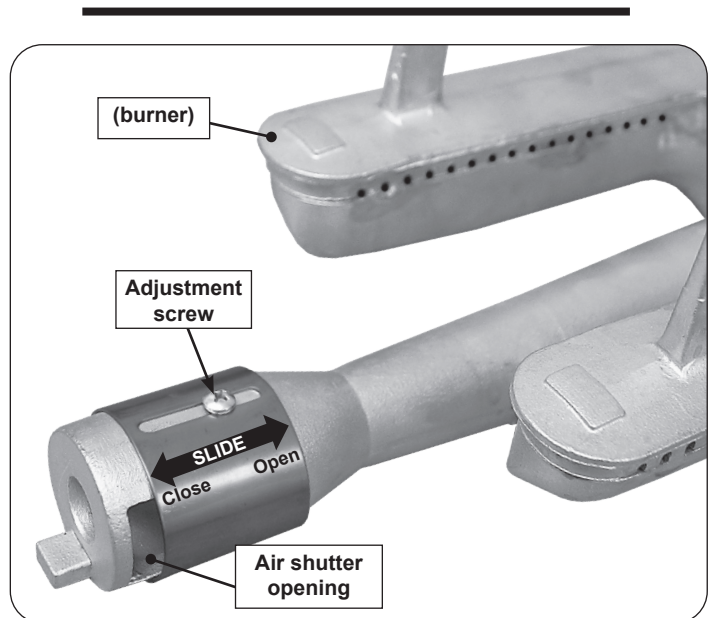

Fig. 38-2 Main burner air shutter adjustment detail
1. To adjust the air shutter, loosen the adjustment screw with a Phillips screwdriver. Then slide the shutter to open or close it. See Fig. 38-2 for details.